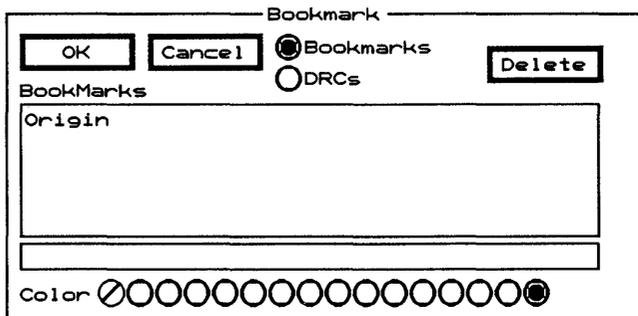

Figure 4-11. The **Bookmark** dialog box.
4. Select = **BOOKMARK**. The **Bookmark** dialog box displays (figure 4-11).